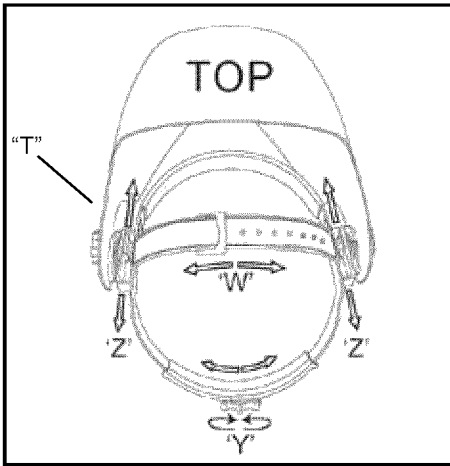

Fig. 1
1. The overall circumference of the headband can be made larger or smaller by rotating the knob on the back of the head gear (Fig 1.Y).
2. If the headband is riding too high or too low on your head, adjust the strap which passes over the top of your head. To do this, release the end of the band by pushing the locking pin out of the hole in the band. Slide the two portions of the band to a greater or lesser width as required and push the locking pin through the nearest hole (Fig 1.W).
3. You can adjust the distance between the helmet and your face. First loosen the adjustment nut (Fig 1.T) on both sides of the helmet. Adjust the distance between the helmet and your face in the down position by sliding the headband forward or backward (Fig 1.Z). Then retighten the adjustment nut to hold in position.
4. You can adjust the helmet resistance speed, which is the speed that the helmet pivots to the down position. The resistance speed is a friction adjustment of the adjustment nut (Fig 1.T). Turn the adjustment nut on each side of the helmet in a clockwise direction to increase friction thereby decreasing the speed the helmet lowers. Turn the adjustment nut counter clockwise to reduce friction thereby increasing the speed the helmet lowers.